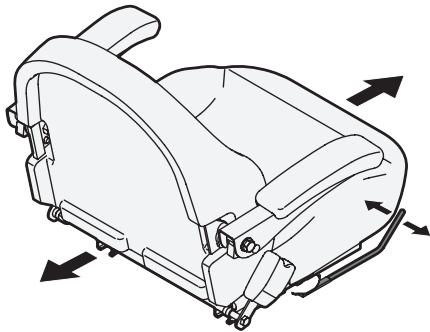

Figure 23
3. Release the adjustment lever. Ensure seat is locked into position before operation (Figure 23).